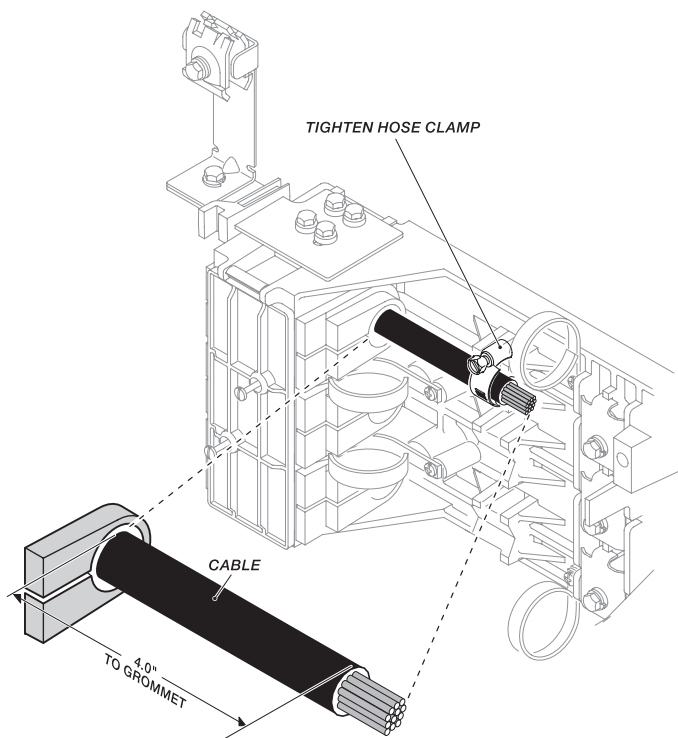

FIGURE 6—Attaching Cable to Frame.
- 6.07** Attach each cable to the closure frame by installing a hose clamp over the cable as shown in Figure 6.